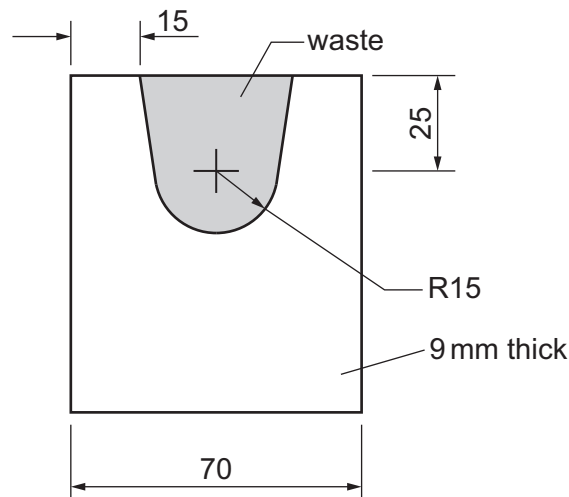

Fig. 13.3
- (d) Fig. 13.3 shows the waste that needs to be removed to produce the shape of the support.